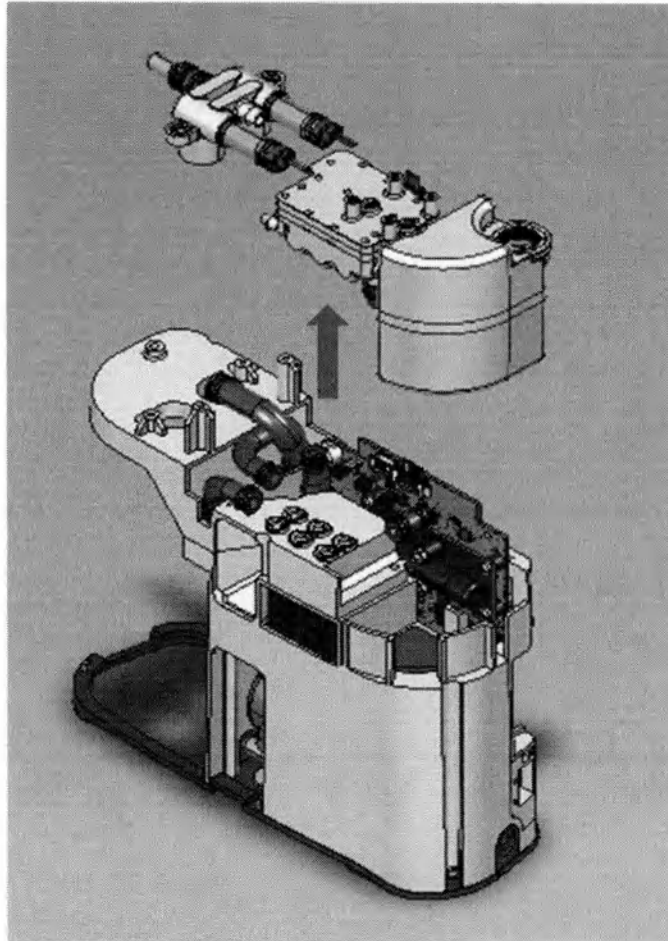

Figure 23
2. Disassembly and remove the manifold bloc composed of R41 10 150, R41 10 151, R41 10 152, R41 10 153, R41 10 154 as shown in Figure 23.